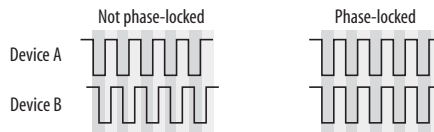

Figure 4-6: When transferring audio, two devices must have phase-locked audio clocks to prevent clicks, pops or other artifacts.
- Synchronizing the 896HD with other digital audio devices so that their digital audio clocks are *phase-locked* (as shown in Figure 4-6)